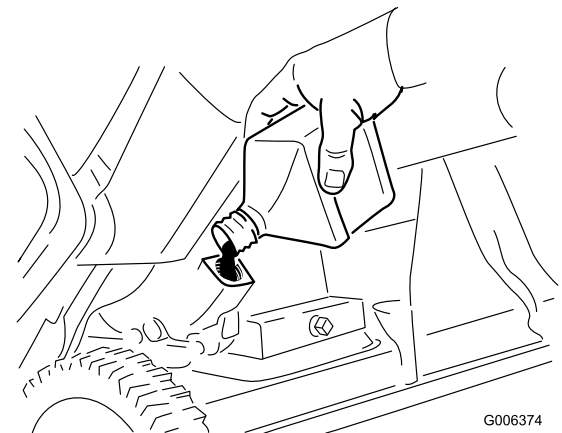

Figure 27
8. With the machine in the operating position, **carefully** pour oil into the oil-fill hole to the point of overflow (Figure 27).